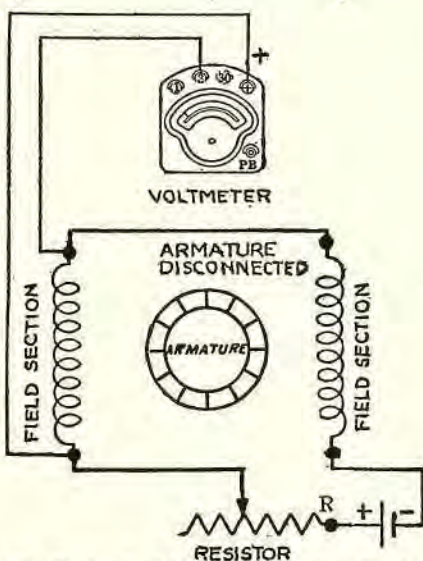

Fig. 7. Testing the fields for short-circuits. Use the 3-volt range to start with.
Testing fields for short circuits: Connect one cell with a regulating resistor (R) in series to the ends of the entire field, as in Fig. 7. (The field is usually made in two or more sections.)